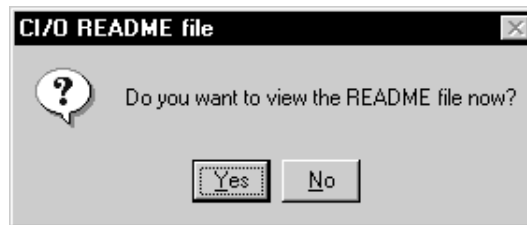

Figure 2-19. CI/O ReadMe file
- 10 Click on **Next** to begin copying files. Once the folders are copied, the CI/O ReadMe file appears as shown in Figure 2-19.